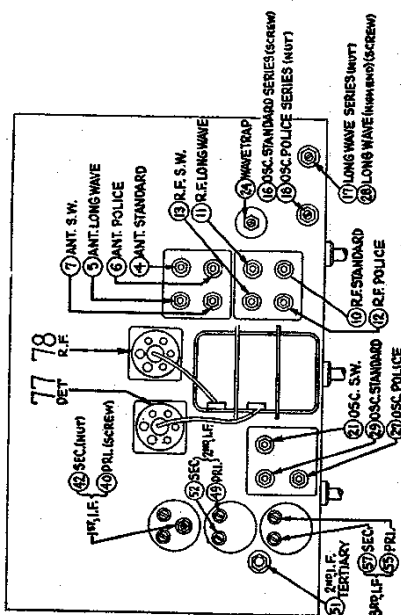

Fig. 2. Location of Compensating Condensers
Philco No. 3164 fibre wrench and No. 27-7059 fibre handled screwdriver complete the equipment needed for making these adjustments. The locations of the various compensating condensers are shown in Fig. 2. Connect the output meter to the plate contacts of the output tubes (using the adapters provided with the "025") and set it at the 0-30 volt range.
Reverse Numbers ② and ③ shown in Fig. 2.